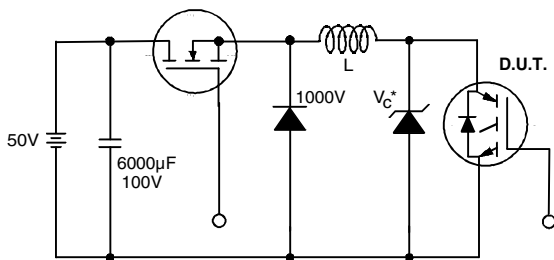

Figure 19. Clamped Inductive Load Test Circuit
- ② $V_{CC}=80\%(V_{CES}), V_{GE}=15V, R_G = 5.0\Omega$. (See figure 19)
- ③ Pulse width $\leq 80\mu s$; duty factor $\leq 0.1\%$.